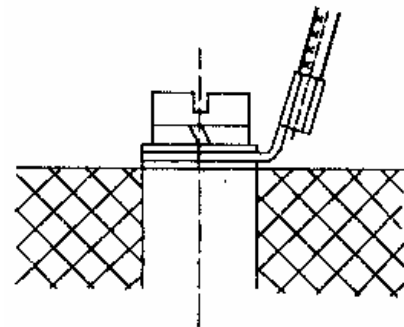

图 4 接线方法 Fig.4 wiring of terminal
4. 端子接线方法：接线要牢固可靠，应采用如图 4 的方法，用弯接头夹住电线
Wiring of terminals: Wiring should be firm and reliable. Connection of wire clamped with elbow joint showed in Fig. 4 should be adopted.